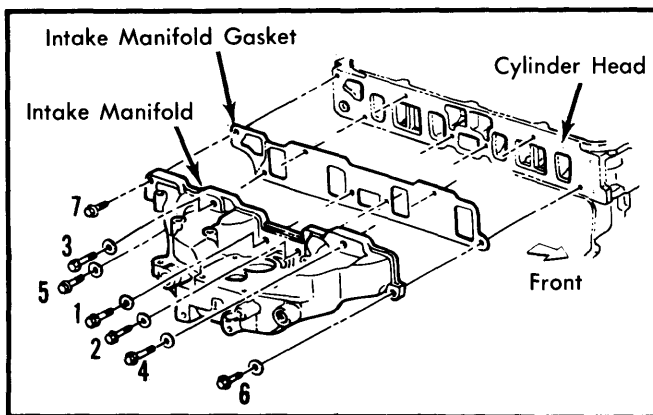

Fig. 1 Intake Manifold Bolt Torque Sequence
2) Torque manifold-to-cylinder head bolts using torque sequence shown in Fig. 1. Reverse removal procedure to complete installation